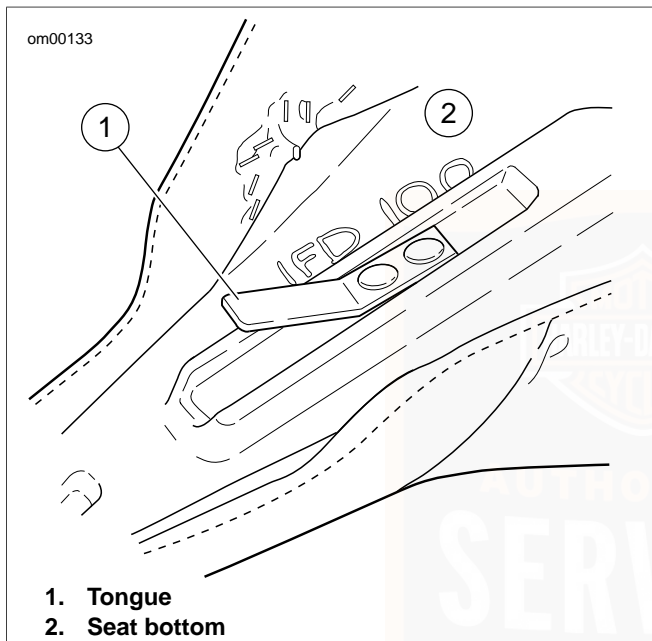
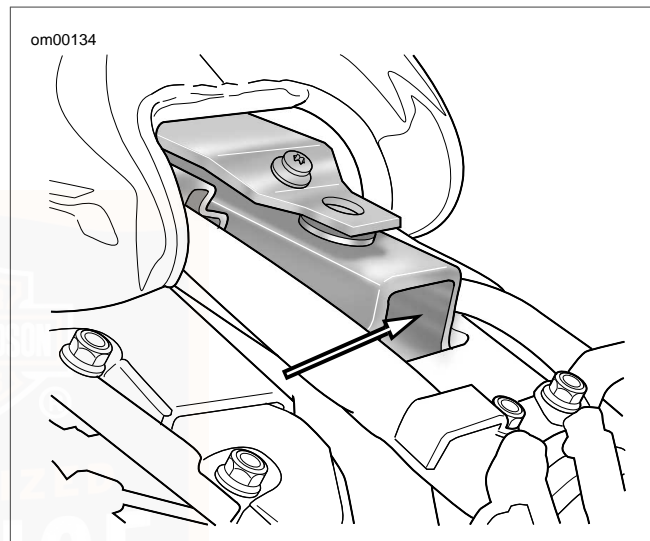

Figure 82. Seat Tongue
Figure 83. Frame Back
See Figure 82 and Figure 83. All Softail Harley-Davidson motorcycles have a tongue underneath the seat that slides into a slot in the back end of frame.
6. See Figure 82. Push seat rearward to free tongue at front of seat from slot or bracket located in frame back.
2. See Figure 82. Push seat rearward to free tongue at front of seat from slot or bracket in frame back.